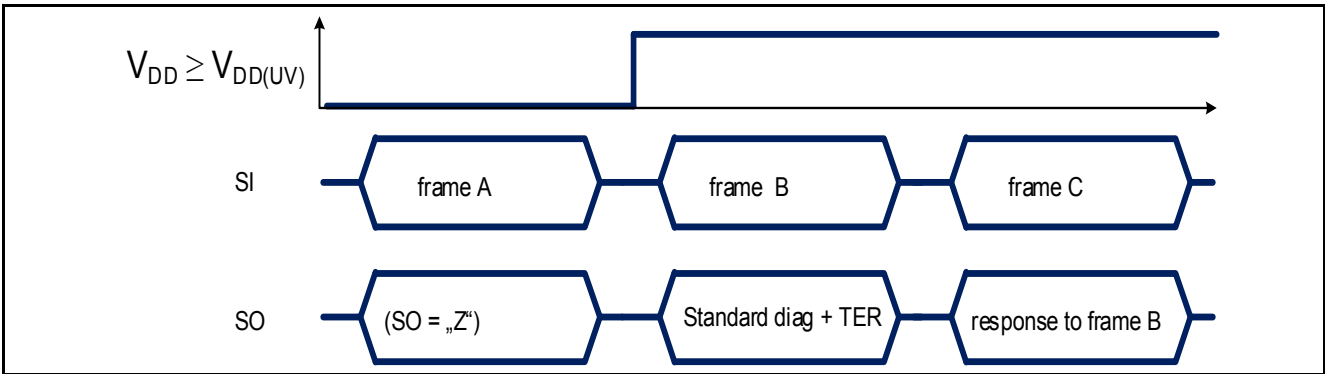

Figure 35 TLD5501-2QV response after coming out of Power-On reset at V_{DD}
- when TLD5501-2QV logic supply comes out of an Undervoltage reset condition ($V_{\text{DD}} < V_{\text{DD(UV)}}$) as shown in **Figure 35** or $\text{EN/INUVLO} < V_{\text{EN/INUVLOth}}$